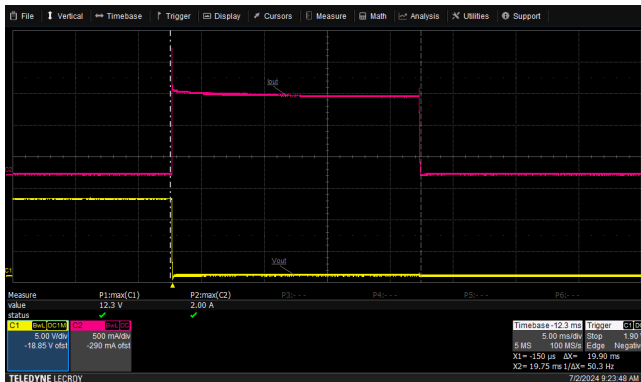

Figure 7. OC Event @ Load: 12 V, 2 A. ILIM – 1.2 A, CL Shift = 0%, CL Shutdown Time – 20 ms
In Figure 7 (5 ms/division) the red signal (Channel 2, 500 mA/div) is the load current of 2000 mA that causes the overcurrent (OC) event. The protection is triggered as soon as the current exceeds the maximum allowed value of 1200 mA (ILIM, CL pin shorted to ground) which is observed by the fall of output voltage (Channel 1 – yellow, 5.0 V/div). Within less than 20 ms – typical current limit shutdown time T_{latch0}– the output current is switched off automatically by the NCV760040.